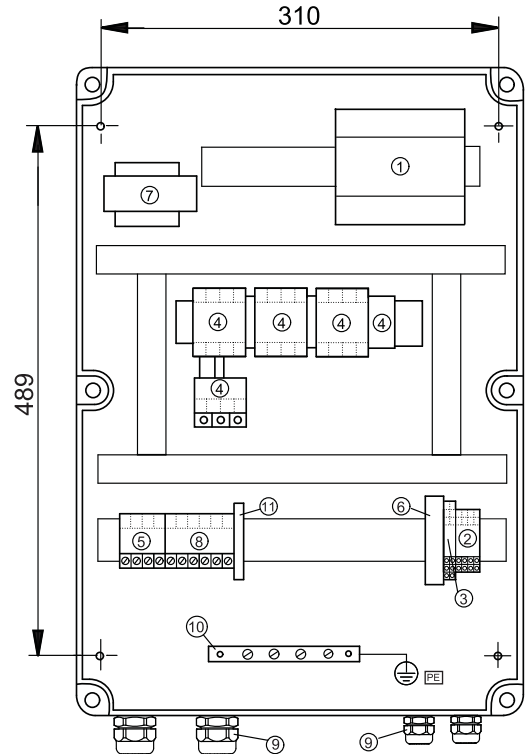

Fig. 3
- with four screws through the mounting holes in the back plate of the cabinet, see fig. 3. The mounting holes must be bored with a 4 mm bore. Fit the screws into the mounting holes and tighten securely. Fit the plastic caps supplied with the controller on the screws (IP65).
Figure 3 shows the *internal* construction of the LC 108 for star-delta starting.
#### Key to the symbols in figs 3 and 4: